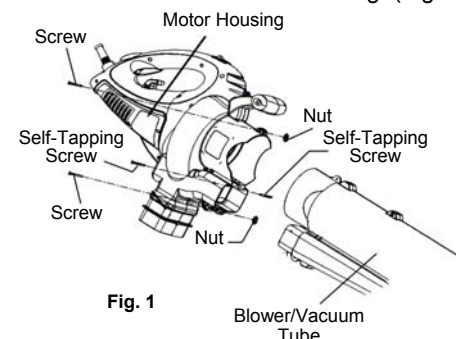

Fig. 1
3. Insert the blower/vacuum tube all the way into the opening on the motor housing until the holes in the tabs on the blower/vacuum tube align with the screw holes in the housing. (Fig. 1)
4. Insert the two (2) screws into the right side of the motor housing the two (2) nuts into the left side of the motor housing. (Fig. 1)